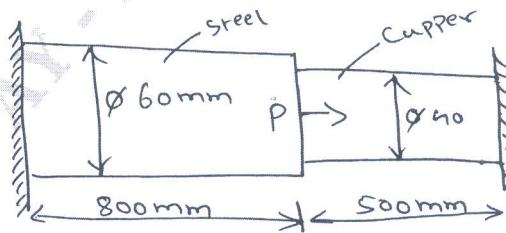

Fig.Q3(a)
- 3 a. Determine the nodal displacement, stress in each element and support reaction in the bar shown in Fig.Q3(a) due to applied load $P = 100\text{kN}$ take $E_{\text{steel}} = 200 \text{ GPa}$; $E_{\text{cu}} = 100 \text{ GPa}$.